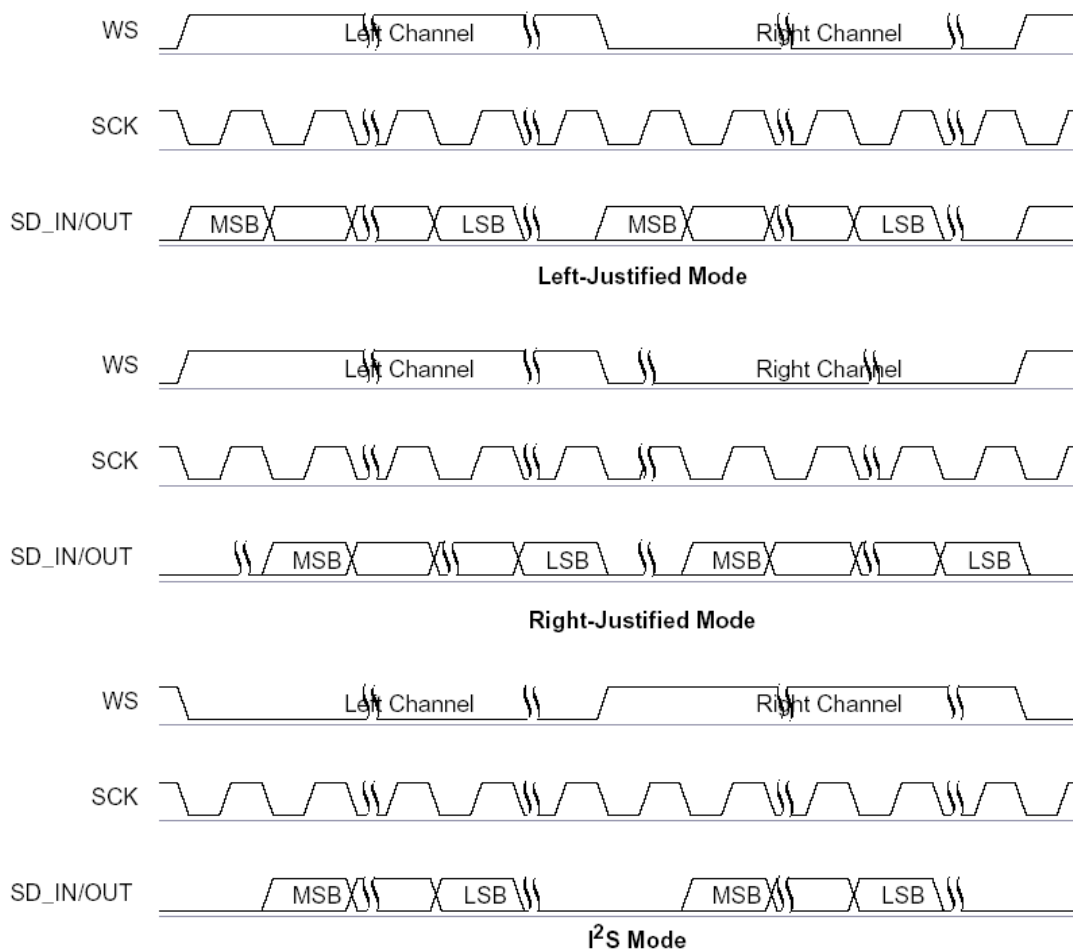

Figure 21: Digital audio interface modes
The digital audio interface supports the industry standard formats for I²S, left-justified (LJ) or right-justified(RJ). The interface shares the same pins as the PCM interface, which means that each audio bus is mutually exclusive in its usage. Table 18 lists these alternative functions. Figure 21 shows the timing diagram.